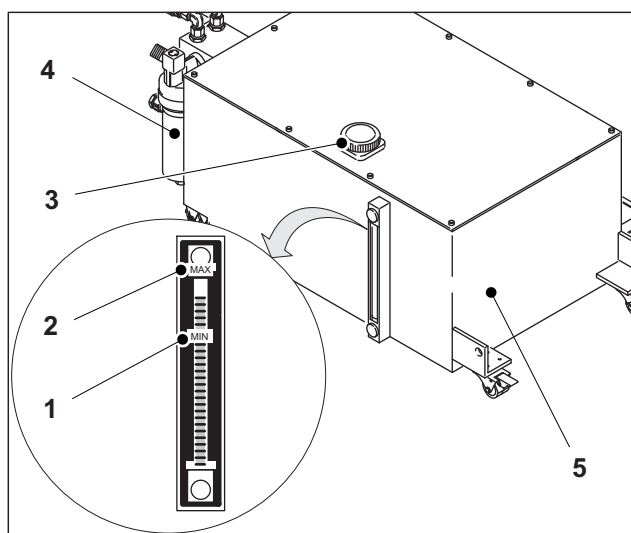

Fig. 6 Lubricant reservoir
3. Open the cover (Fig. 6/3) of the lubricant reservoir (Fig. 6/5).
4. Fill the lubricant through the sieve into the lubricant reservoir up to the "MAX" mark (Fig. 6/2).